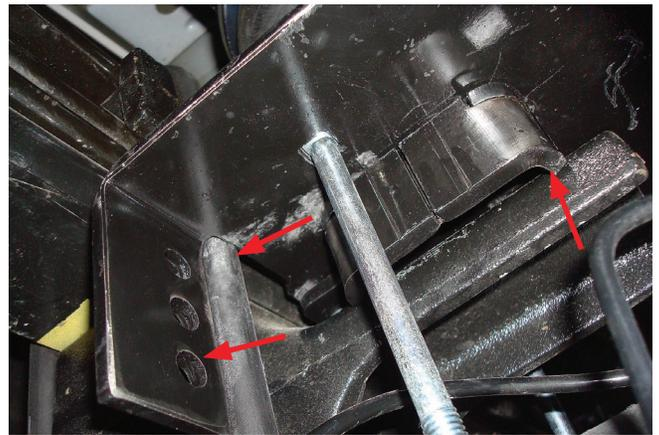

Fig. 34
2. Once assemblies are in position on the jounce bumper strike plate or axle, push the lower bracket so that it is flush against the leaf spring stack and both flanges on the lower bracket are locked around the stock U-bolts (Fig. 34).